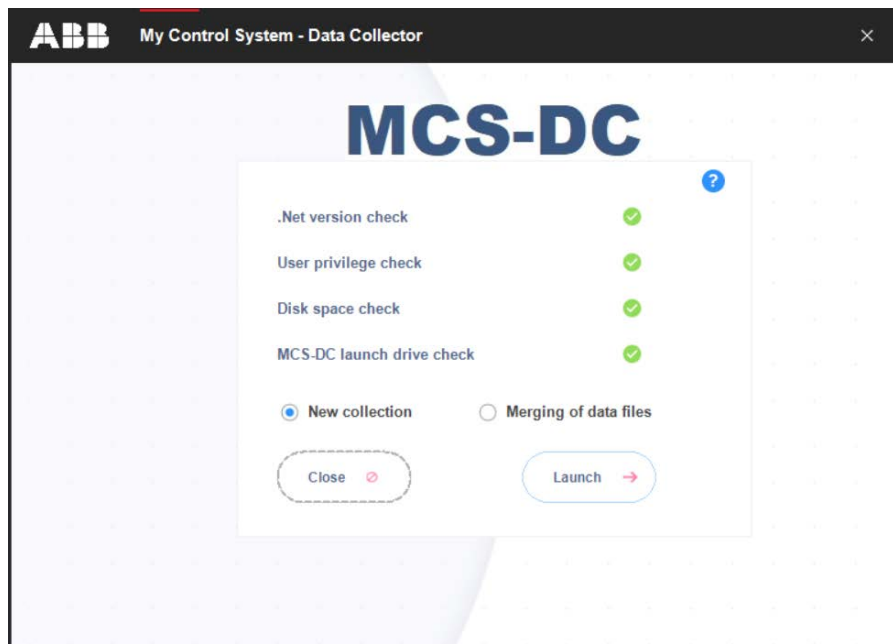

Figure 30. .NET Framework version check and Prerequisite check status
2. Double-click the **MCS-DC_Launcher.exe**, to launch the tool. It is present inside the unzipped MCS-DC folder. The initial screen appears as shown in Figure 30. MCS-DC tool runs the below checks on the launch node. If the checks are passed, a Green tick mark is shown, click the **Launch** button to proceed for data collection. If the checks fail, a Red cross mark is shown, user has to fix the issue and launch the MCS-DC tool again.